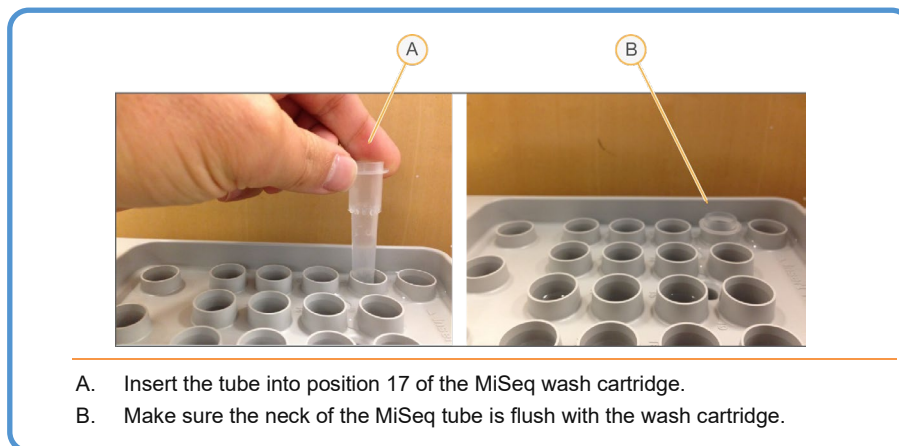

Figure 5. Inserting the 0.01% Sodium hypochlorite wash tube in wash tray
9.10.4. Insert the wash tube into position 17 in the designated bleach wash tray until the neck is flush with the tray (B in Fig. 5).